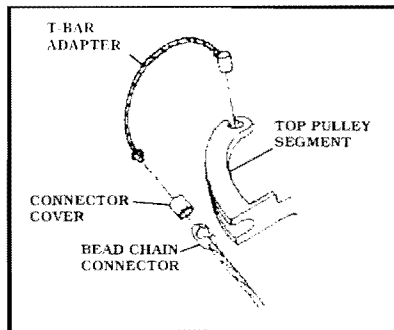

Figure 11
3. Attach a BEAD CHAIN CONNECTOR onto the CRUISE CABLE. Figure 11